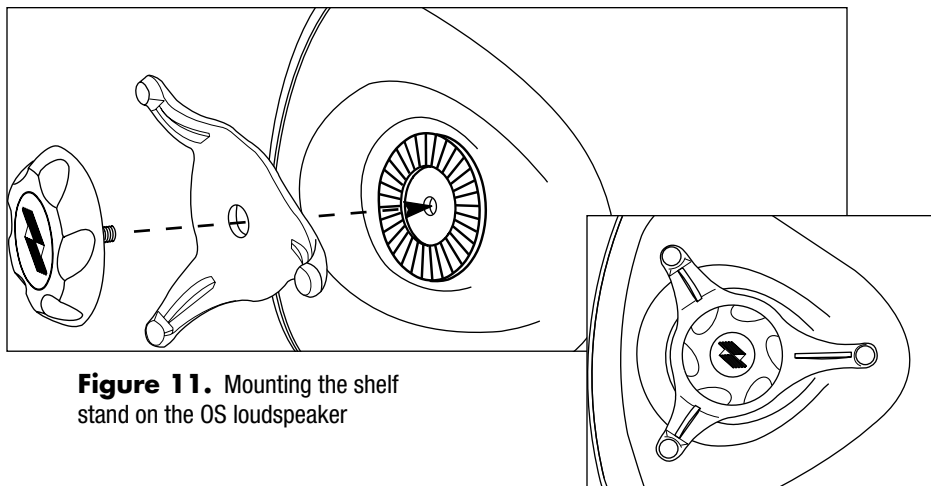

Figure 11. Mounting the shelf stand on the OS loudspeaker
4. Place the supplied shelf stand on the loudspeaker with the two shorter feet towards the front of the loudspeaker (see **Figure 11**). Make sure the ridges on the shelf stand engage the ridges on the cabinet.